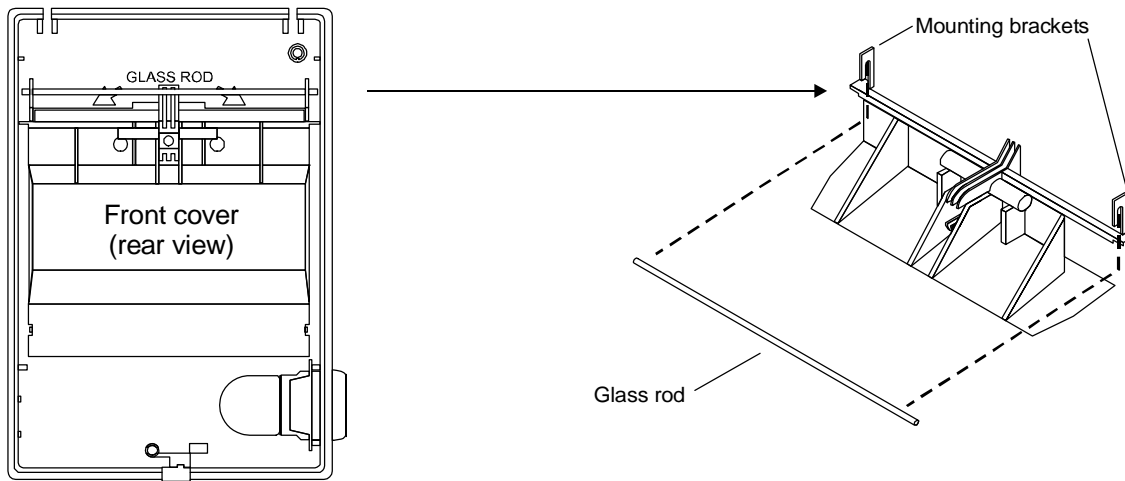

Figure 2: Glass rod installation
1. Install the glass rod in the mounting brackets inside the front cover of the release station (Figure 2).